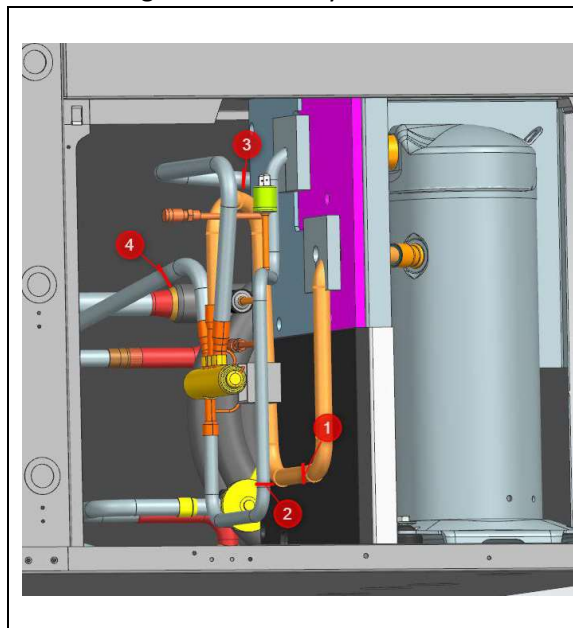

Figure 6. Suggested locations to cut pipes
- 2) Cut pipes shown on figure 6 to remove reversing valve assembly.